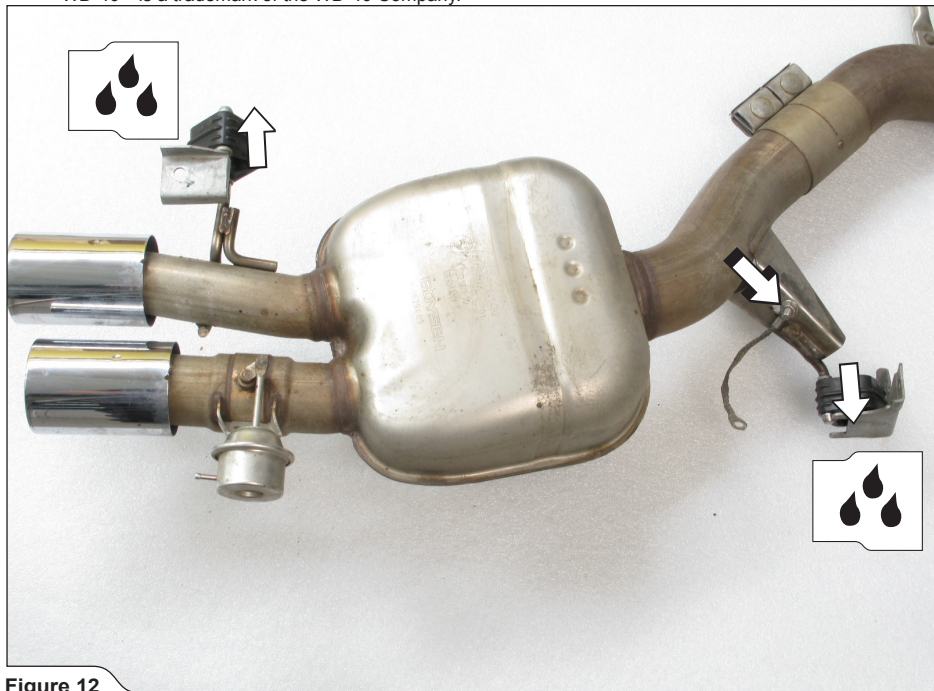

Figure 12
9. Carefully remove the complete stock exhaust system off the vehicle. Carefully pull all rubber brackets off both mufflers and unscrew both ground wires (**Figure 12**).